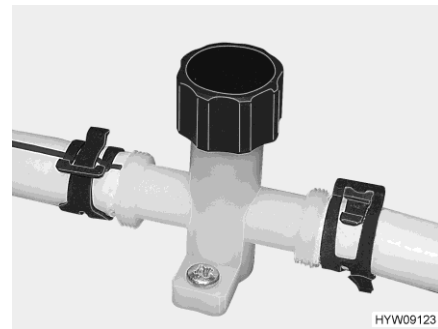

Fig. 167 Drain cock (water pipe)
- Close the drain cocks. In order to do this, turn the cap of the drain cock (Fig. 167) in a clockwise direction.